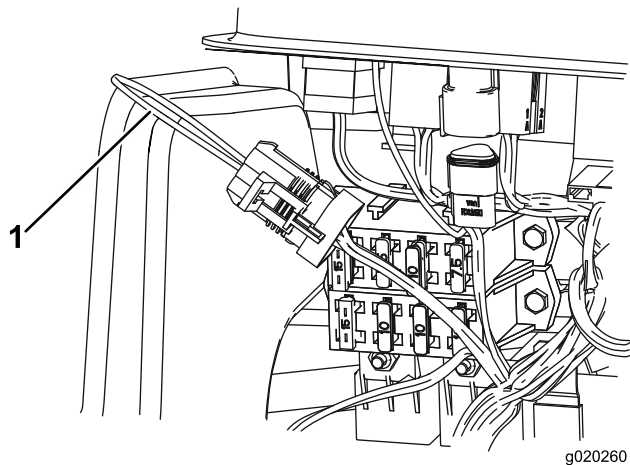

Figure 102
3. Locate the wire harness and loop-back connector (Figure 102).